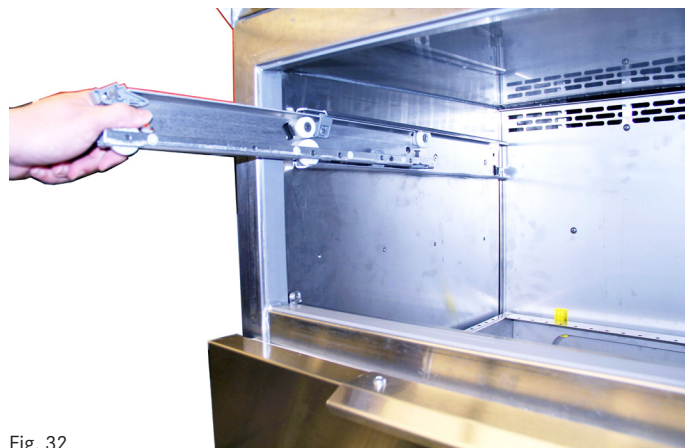

Fig. 32
5. Pull the drawer sliders out as far as they will go (Fig. 32).